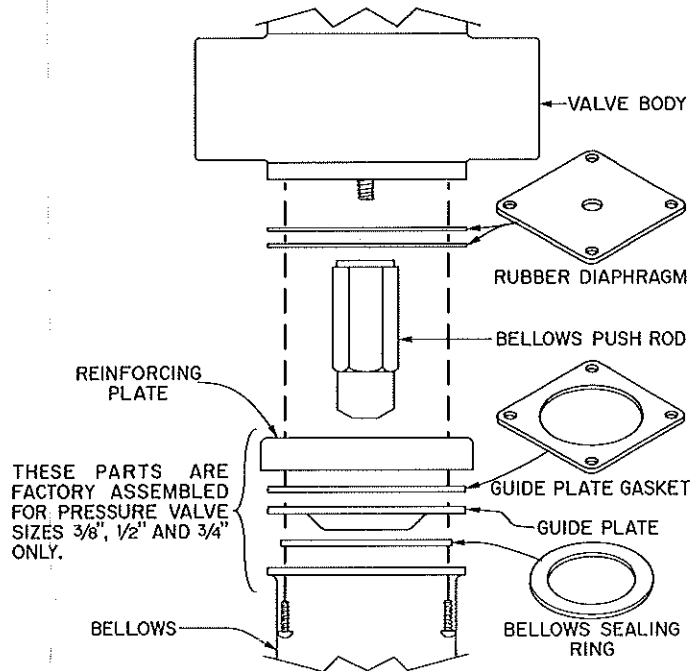

Fig. 1 — Drawing showing sequence of installation.
- b. On 1" valves and larger, the guide plate gasket and sealing ring must be replaced before the element is installed. See Fig. 1 for sequence of installation.
6. Replace the guide plate gasket and sealing ring before the element is installed. See Fig. 1 for the sequence of installation.